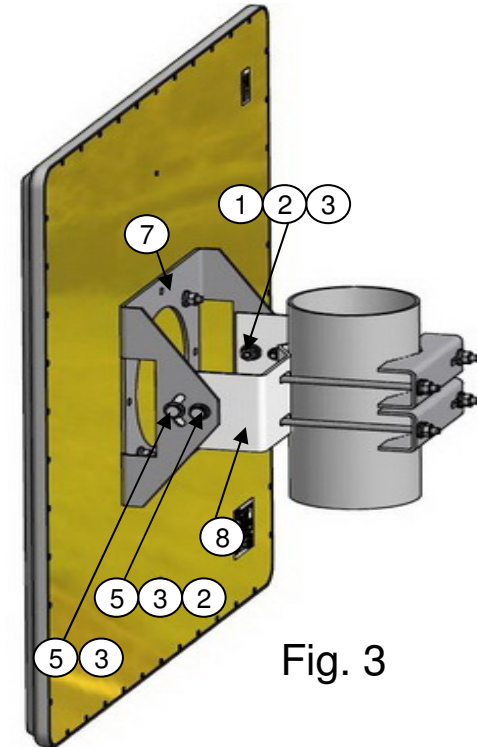

Fig. 3
3.1 Adjust 2 slots & 2 holes of Plate item 7 to the 4 holes of Base item 8 (**Fig. 3**).